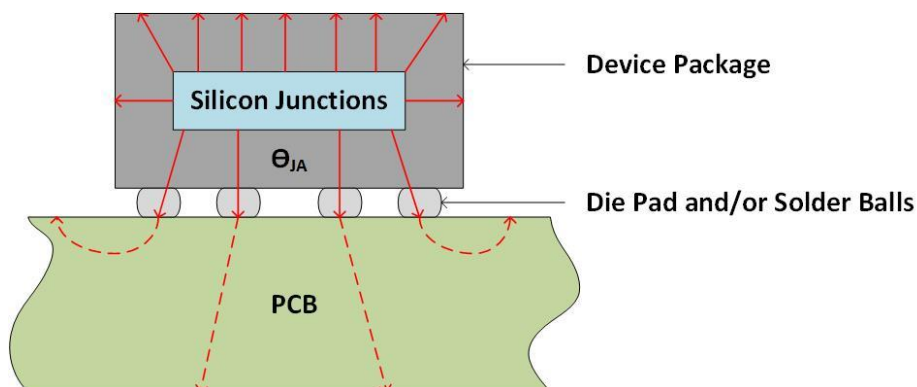
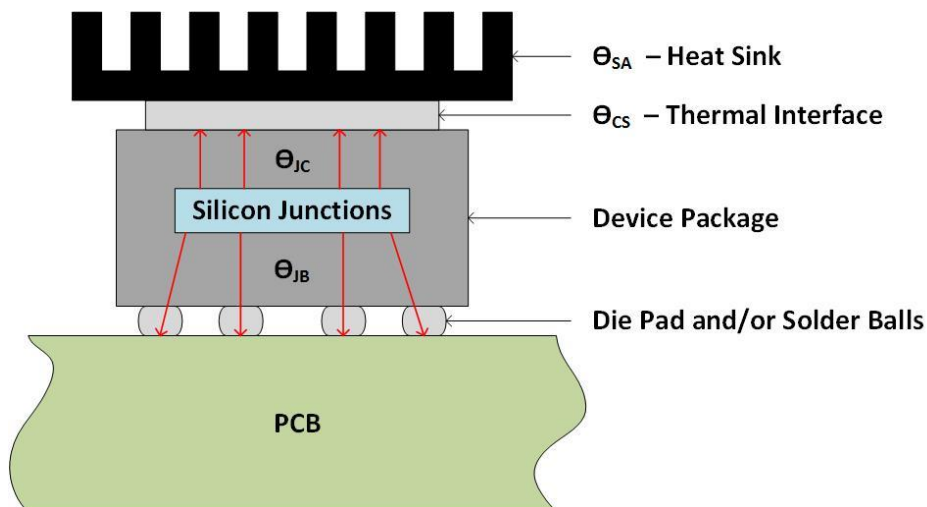

Figure 1.1. Thermal Resistance Path from Silicon Junctions to Ambient Air
Figure 1.2. Thermal Resistance Path from Silicon Junctions to Package Top and to PCB
In addition to the device and package, the thermal characteristics of a circuit depend on the operating temperature, device power consumption, and the ability of the system to dissipate heat. The maximum junction temperature of a device can be calculated using the equation below that corresponds to the type of thermal management utilized in the design. Equation 1.1 is for a simple system that dissipates heat directly from the device to the ambient air, as shown in Figure 1.1. Equation 1.2 is for a system that has a heat sink located on the top of the device, as shown in Figure 1.2. Finally, Equation 1.3 is used for a system that dissipates the device heat into the PCB, as shown in Figure 1.2.
- θ_{JB} (θ_{JB} = Junction-to-Board Thermal Resistance). θ_{JB} value shown is only applicable when the package thermal pad and/or solder balls are soldered directly onto user PCB (see Figure 1.2).